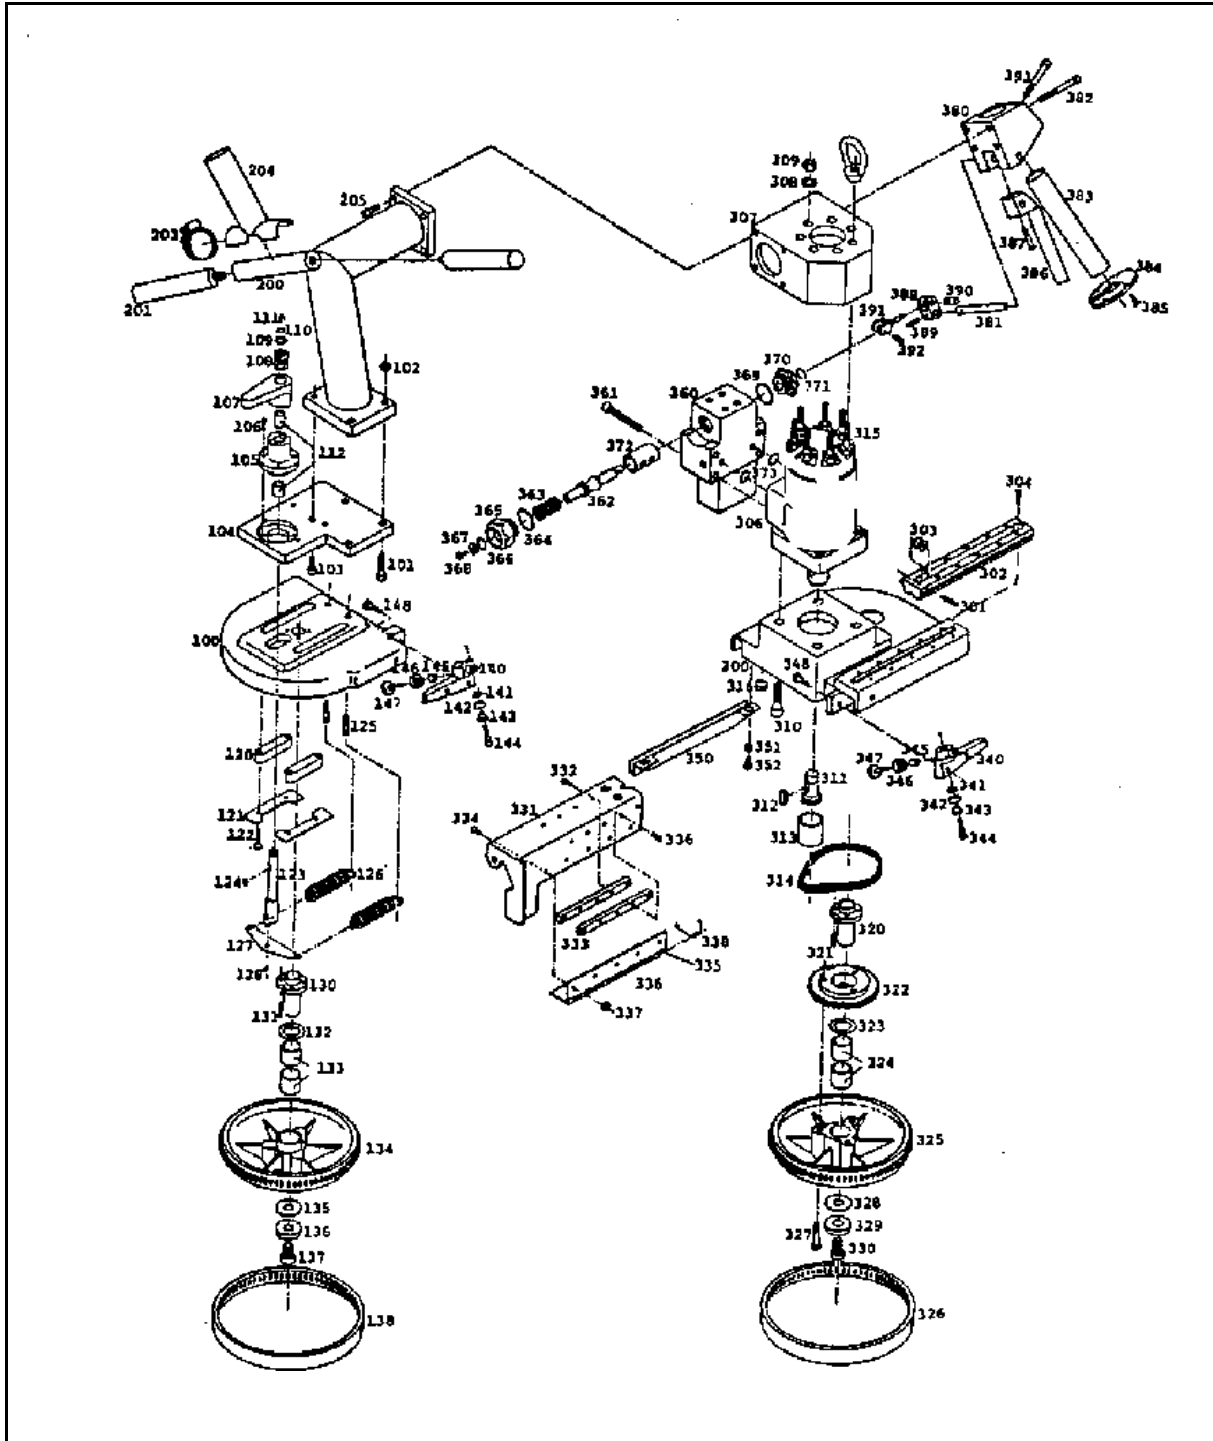

Figure T-2. Band Saw Exploded View.
- a. Figure T-2, Bandsaw Exploded View.